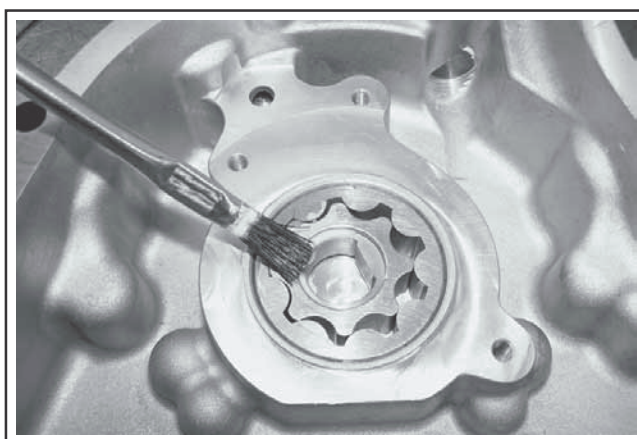

Figure 9-14. Installing and Lubricating Oil Pump Gerotor Gears.
2. Lubricate the oil pump gerotor gears with grease (Lubriplate® 100 or equivalent), and install into the recess. See Figure 9-14.